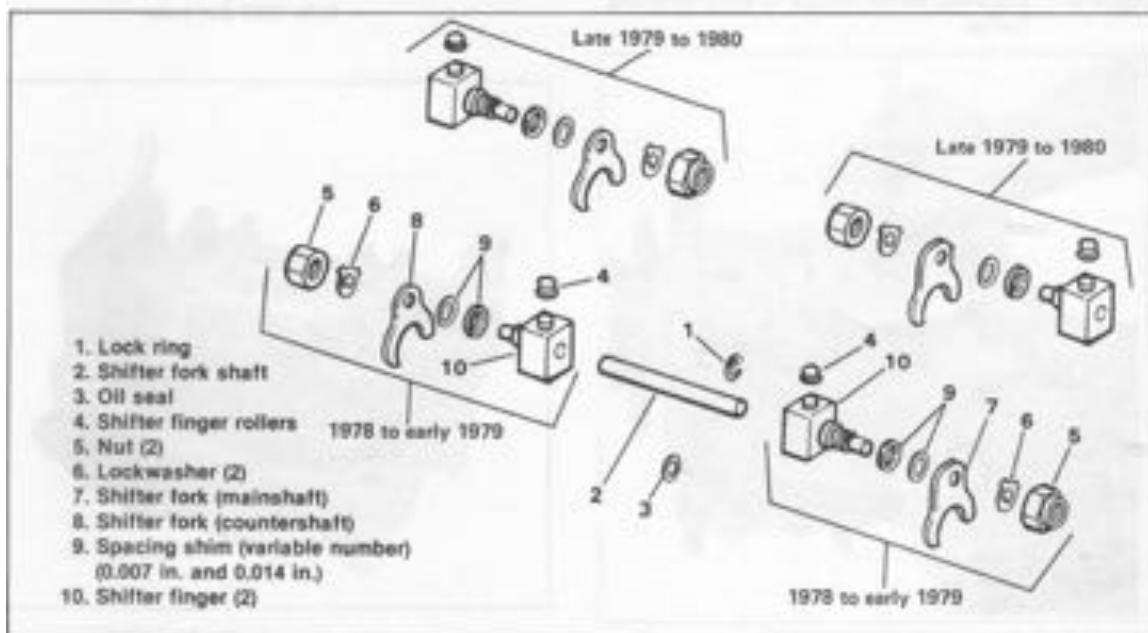

Figure 4-16. Shifter Fork — Exploded View
The disassembly and assembly procedure is the same for early and late style transmissions. However, on late 1979 and later transmissions, the shifter fork assemblies are reversed on the shifter shaft, that is, the side with the nuts (5) face the center of the shaft. See Figure 4-16.
#### REMOVING SHIFTER FORKS (Figure 4-16)
#### DISASSEMBLING SHIFTER FORKS (Figure 4-16)